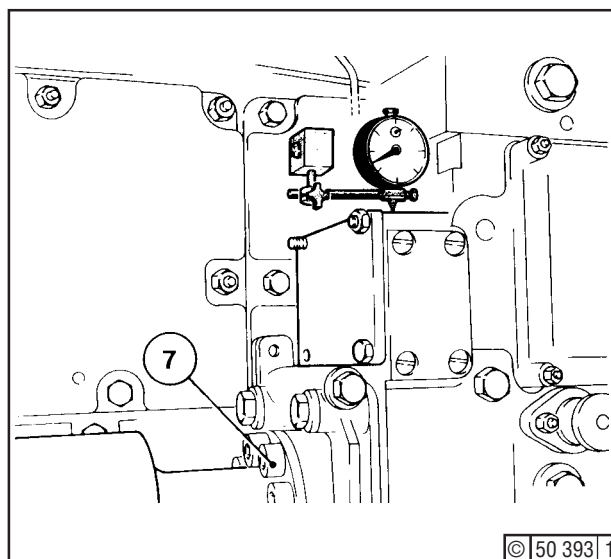

Fig. 12
- Tighten cheese head bolts (7) - Fig. 12 - as specified (Section 3.5, line 15).
- Fasten dial gauge to crankcase. Position feeler of dial gauge at drive end of injection pump - Fig. 12.